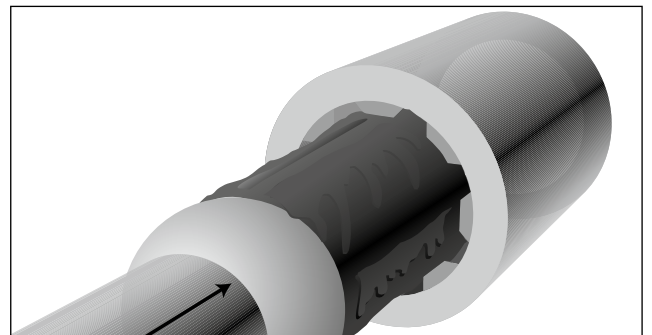

Figure 26. Install coated spline into shaft and remove excess epoxy.
4. **MIX AND APPLY REPAIR COMPOUND:** Mix and apply the recommended repair compound to the spline shaft. Do not apply product into the socket. Immediately push the spline shaft into the socket and remove excess material. (See *Figure 26*)